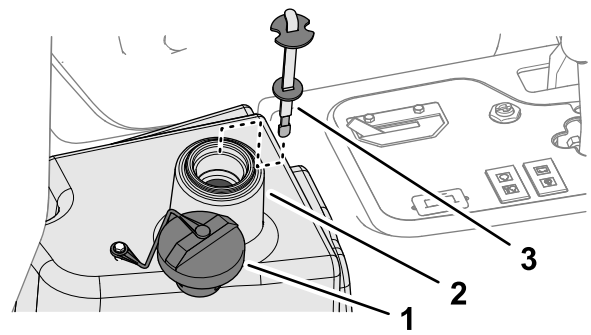

Figure 88
2. Clean the area around the filler neck and cap of the hydraulic-fluid tank (Figure 88) and remove the cap.